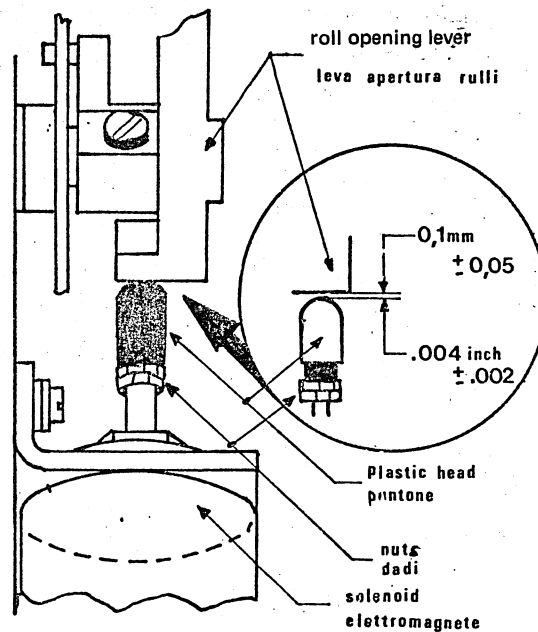

Fig. 8-26
- . Loosen the two adjustment nuts (fig. 8.26)